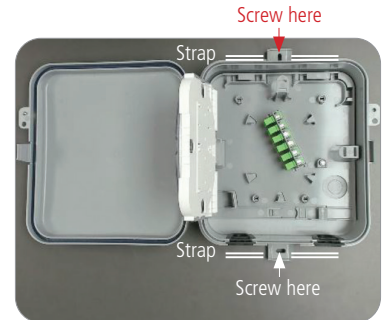

Figure 1
1. Using local engineering practices, determine the mounting position of the enclosure on the wall. **(Figure 1)**